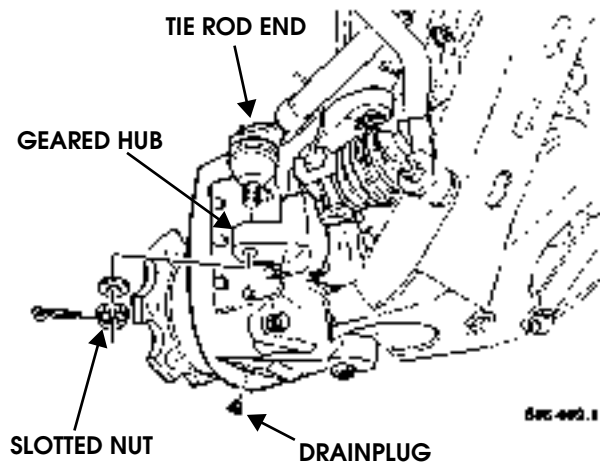

Figure 9-14: Geared Hub Drainplug Location
2. Remove drainplug from geared hub and drain geared hub (Figure 9-14).
7. Remove cotter pin, slotted nut, and washer from tie rod end. (Figure 9-14).
8. Insert tie rod end into geared hub and secure with washer and slotted nut. Tighten slotted nut to 70 lb-ft (95 N•m). Install cotter pin (Figure 9-14).